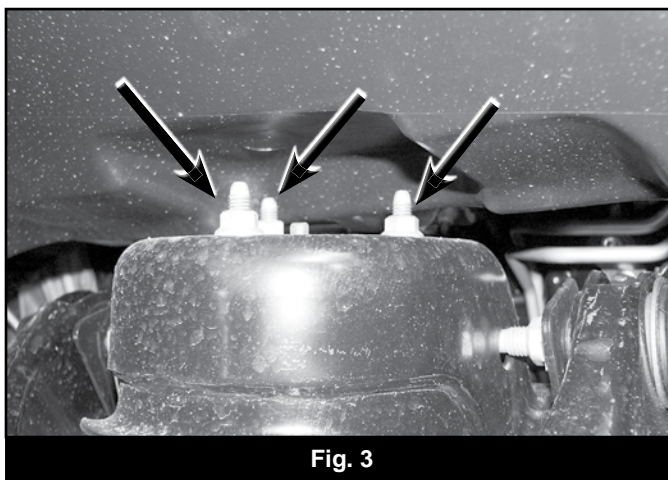

Fig. 2b
15. 4inch kit only: Disconnect the brakeline hardware from the strut tower and pull the brakeline through the mount. Cut a slot to allow the brakeline to be removed from the frame. If you do not wish to cut on the coil bucket, the line can be disconnected and reconnected after it is removed from the frame. If the line is disconnected the brakes must be bled at the end of the installation. (Fig 2b)